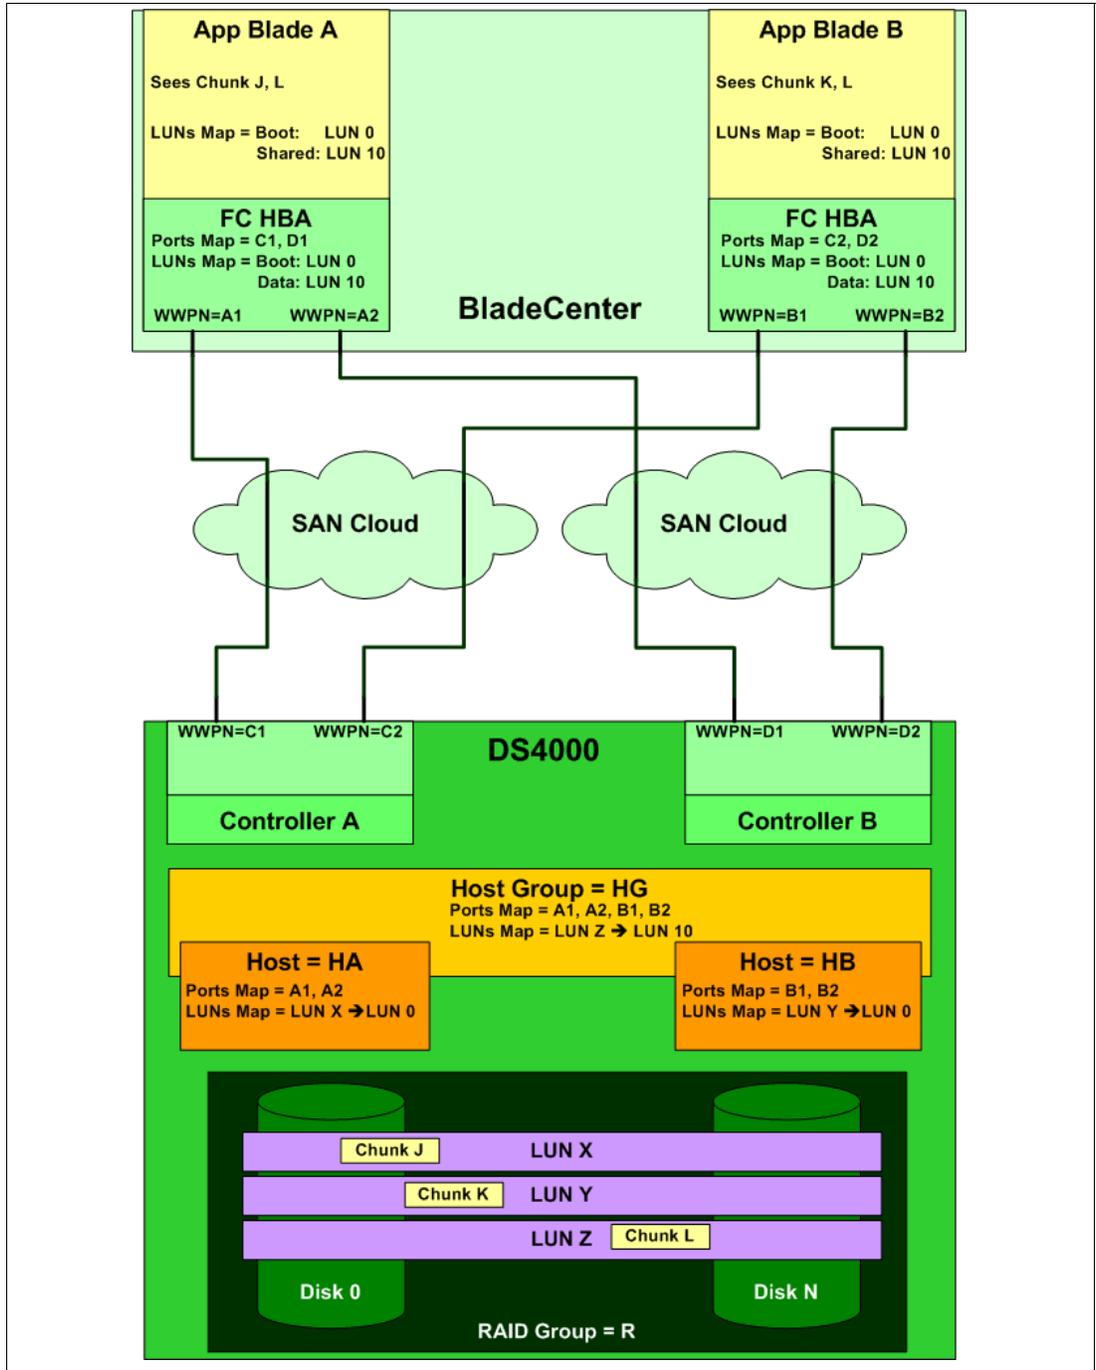

Figure 10-73 MSCS SAN boot
Figure 10-73 on page 627 illustrates a scenario relevant to MSCS SAN boot limitations:
- ▶ In the example configuration (Figure 10-73 on page 627) the following is true: